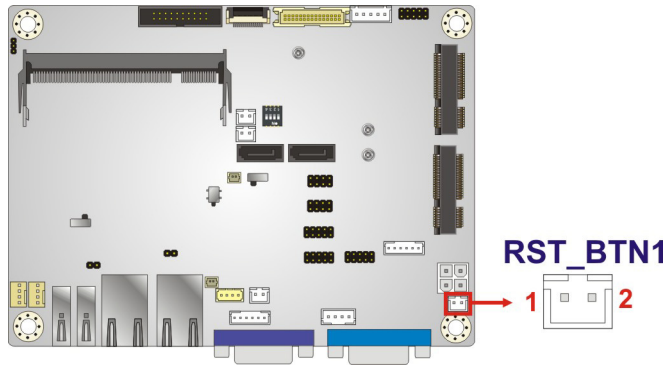

Figure 3-17: Reset Button Connector Location
- CN Location: See **Figure 3-17**